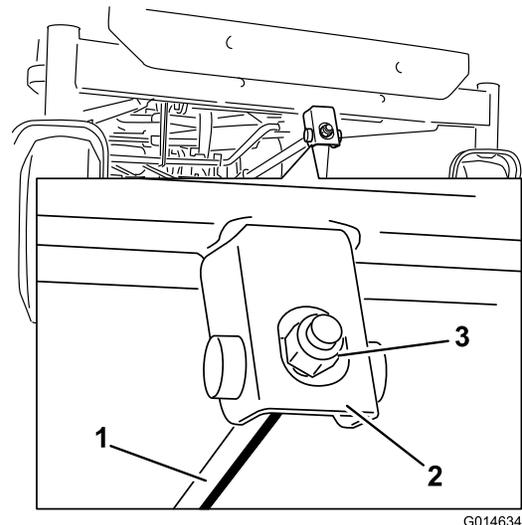

Figure 52
- To adjust the front-to-rear blade slope, rotate the adjustment nut in the front of the mower (Figure 52).